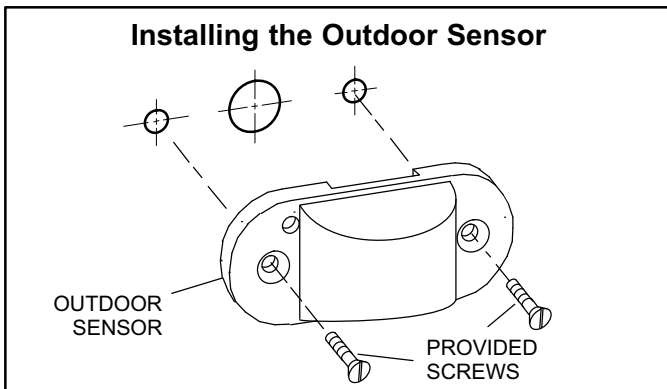

Figure 1
- Drill two 3/16" diameter holes for the mounting screws or wall anchors. See figure 1.
- Between the two mounting holes, drill a hole large enough through which to pass the sensor wires, thermostat wires, and wire nuts. See figure 1.